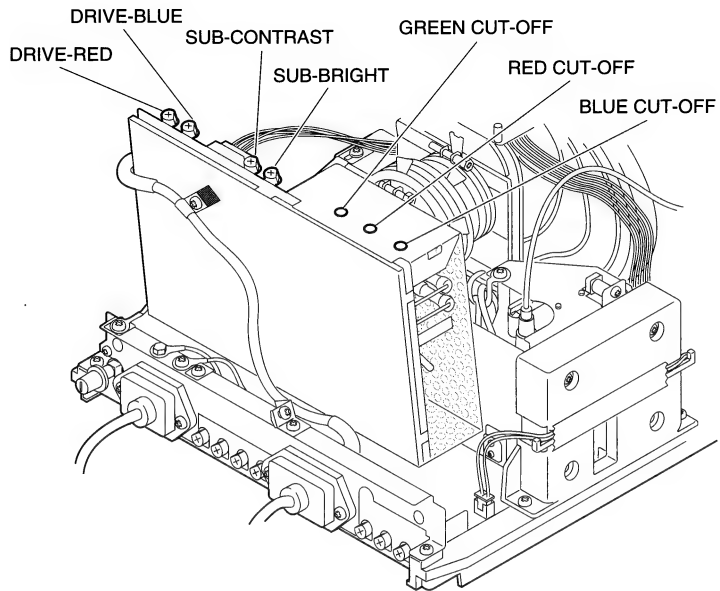

Figure 12 Video Adjustment Controls
4. FIGURE 12. Preset the following adjustment controls:
5. FIGURE 12. Adjust the SUB-BRIGHT control (VR202) counterclockwise until you cannot see the raster, and then turn the SUB-BRIGHT control clockwise until the raster is visible.
6. FIGURE 12. Adjust the GREEN CUT-OFF control until green is the predominant color on the screen. (The entire screen should be obviously tinted green, but dark.)
8. FIGURE 12. Alternately adjust the RED and BLUE CUT-OFF controls until the left three bars display no predominant color (no colored tint).
9. FIGURE 12. Turn the SUB-BRIGHT control (VR202) counterclockwise until the left-most bar is as black as the screen border.
11. FIGURE 12. Alternately adjust the two drive controls—DRIVE-RED and DRIVE-BLUE—until there is no predominant color in the right three bars.
15. FIGURE 12. Adjust the SUB-CONTRAST control (VR201) until the center of the all-white screen measures at the top of the "10" scale on the light meter.